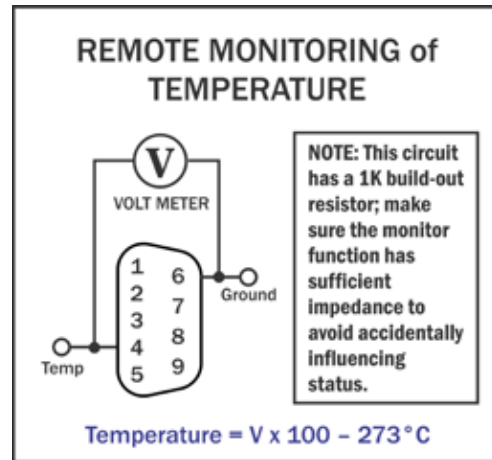

Figure 7.3 – Remote Temperature Monitor
**Method:** Connect a voltage meter to monitor the temperature at the heatsinks of the amplifier. Connect across Temp (PIN 4) and Ground (PIN 3 or 6). See **Figure 7.3**.